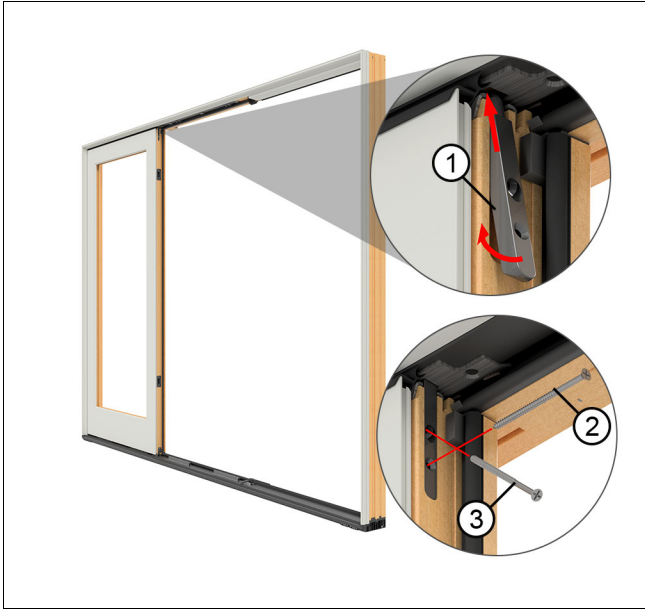

Figure 57
6. Install the end of the stationary bolt into the head jamb plate. Fasten to the stationary panel with the two #8 x 3" screws. Note that the top screw is installed at an angle. See Figure 57.